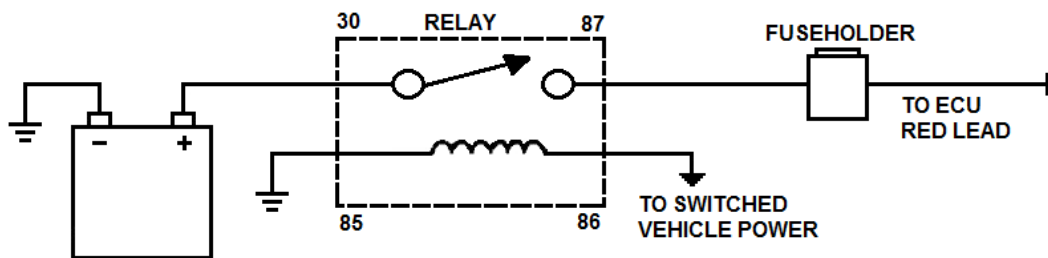

Figure 15: Primary Power Connection with Relay
- Locate the single red wire in the wiring harness, the power relay, the fuse holder cable assembly, and four (4) female quick-disconnect terminals (#49-C).
3. Connect a 16 gauge stranded wire from the positive terminal of the battery to terminal position **30** on the relay. Terminate the wire with a female quick-disconnect terminal and then plug the terminal into the relay (Fig. 15).